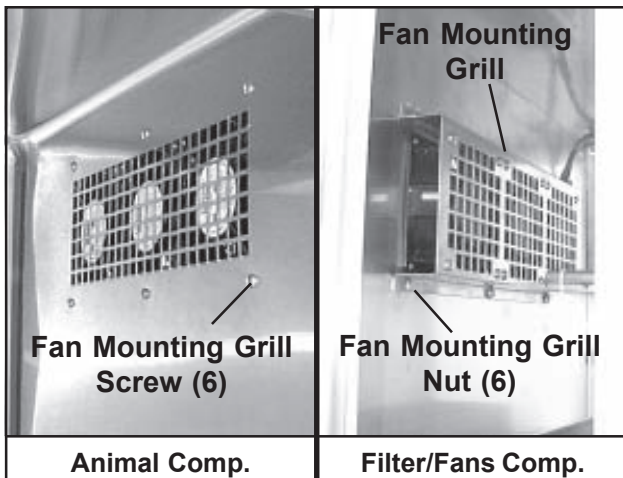

Figure 157. Fan Mounting Grill, Screws and Nuts
8. With a Phillips screwdriver and a 3/8-in. wrench, remove the six screws/nuts that hold the fan mounting grill to the partition. **Note:** The nuts are in the filter/fans compartment; the screw heads are in the animal compartment (Figure 157).